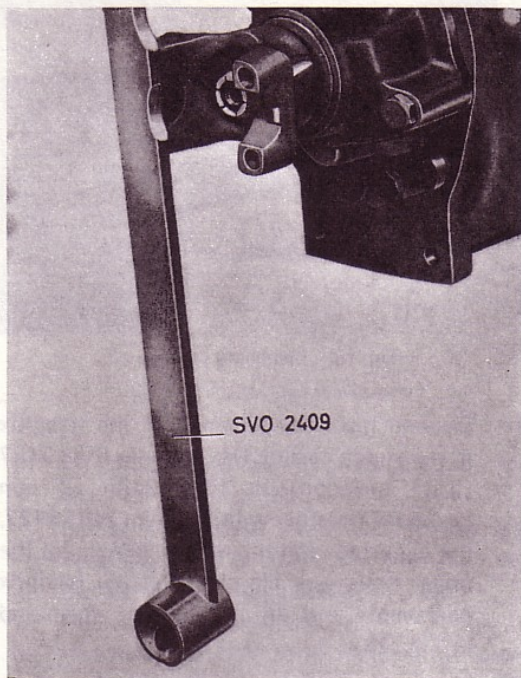
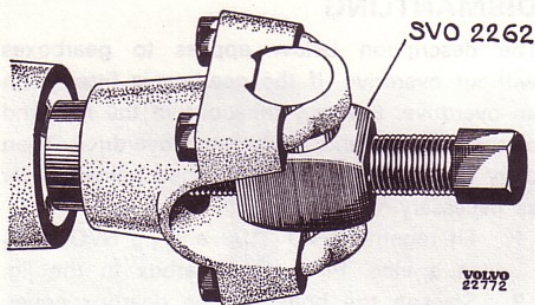

Fig. 11. Counterhold for yoke
Fig. 12. Removing yoke, early prod.
2. Slacken the nut for the yoke. Use spanner SVO 2409 as a counterhold, see Fig. 11. Pull off the yoke. Use puller SVO 2261 for round flanges and SVO 2262 for yokes, see Figs. 12 and 13.